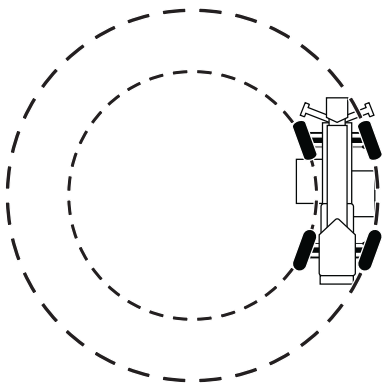

Figure 19 Four-wheel Steering
1. Four-wheel Steering (Figure 19)